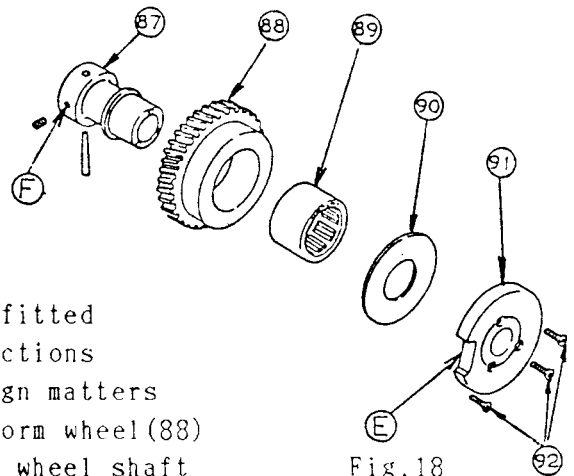

Fig.18
1. To assemble and adjust the worm wheel.(Fig.18)
Check and make sure the one way clutch(89) is press fitted in the worm wheel(88) with its piece marked end to the right as shown in Fig.18. Then fit worm wheel(88) with one way clutch(89), washer(90) and cutting safety cam(91) to worm wheel shaft(87) and secure in place with three screws (92) after aligning the notch(E) in cutting safety cam (91) with screw hole(F) in worm wheel shaft(87).